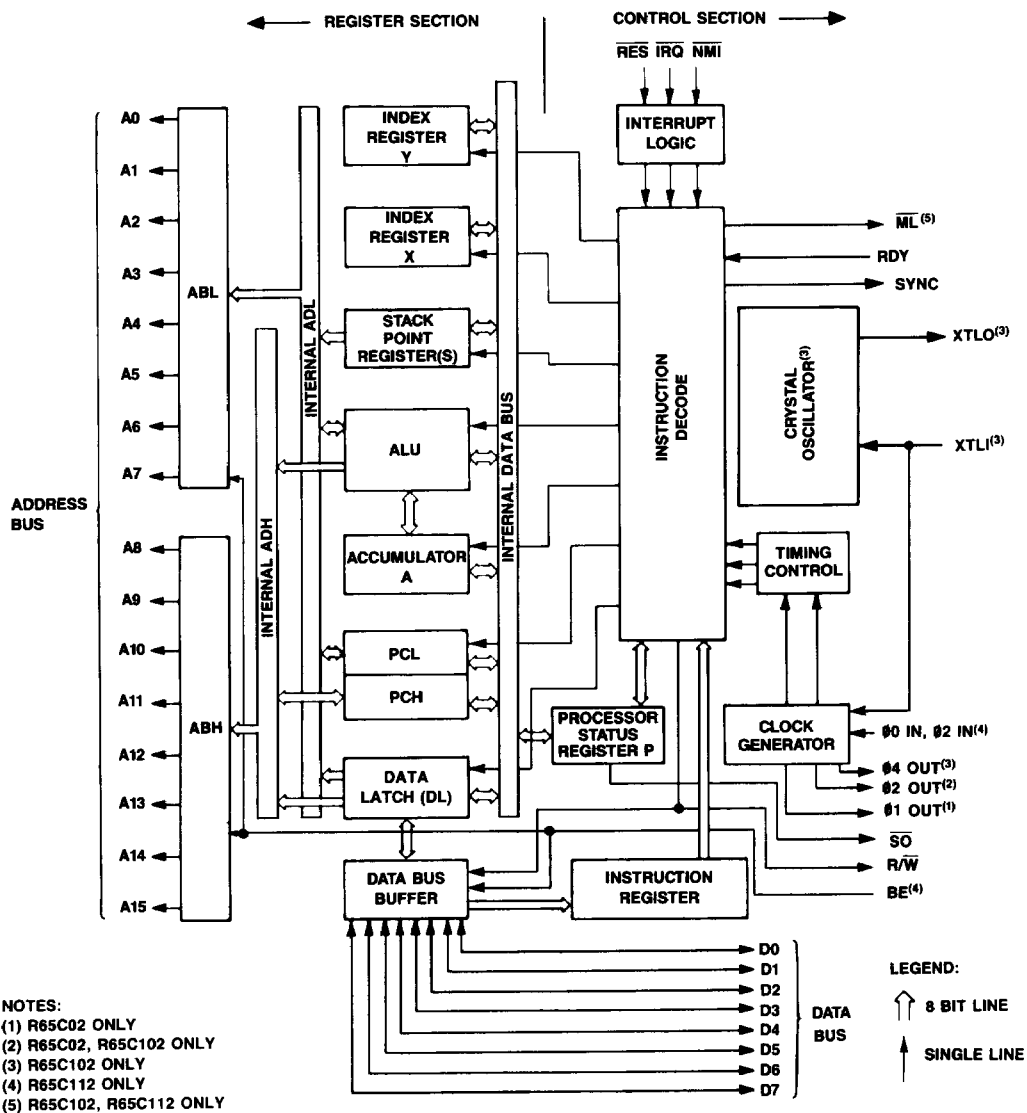

Figure 2. R65C00 Internal Architecture
Figure 2 shows the block diagram of the R65C00 CPU internal architecture for all three devices. With the exception of the crystal oscillator, clock signals, Memory Lock (ML), and Bus Enable (BE) signals, the internal architecture of the three members of the R65C00 CPU of devices is identical. This block diagram supports the following text that describes the function of each of the device's major elements.